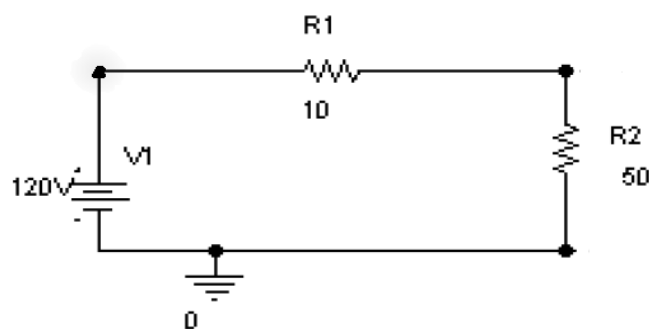

Figure 1.3: Basic DC circuit
1. Select the any two resistors from In-lab task 1 and place it on bread board to make the circuit shown in Fig 1.3.